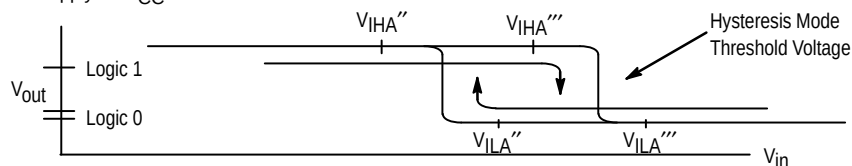

Figure 1. Hysteresis Mode Threshold Voltage
2. Output latched to logic high state prior to test. V_{IHA}' , V_{ILA}' are standard logic 1 and logic 0 MTTL threshold voltages. V_{IHA}'' , V_{ILA}'' , V_{IHA}''' and V_{ILA}''' are logic 1 and logic 0 threshold voltages in the hysteresis mode as shown in Figure 1 on page 3-2.
- Output latched to logic high state prior to test. V_{IHA'}, V_{ILA'} are standard logic 1 and logic 0 MTTL threshold voltages. V_{IHA''}, V_{ILA''}, V_{IHA'''} and V_{ILA'''} are logic 1 and logic 0 threshold voltages in the hysteresis mode as shown in Figure 1 on page 3–2.
- Output latched to logic high state prior to test. V_{IHA}' , V_{ILA}' are standard logic 1 and logic 0 MTTL threshold voltages. V_{IHA}'' , V_{ILA}'' , V_{IHA}''' and V_{ILA}''' are logic 1 and logic 0 threshold voltages in the hysteresis mode as shown in Figure 1 on page 3-2.